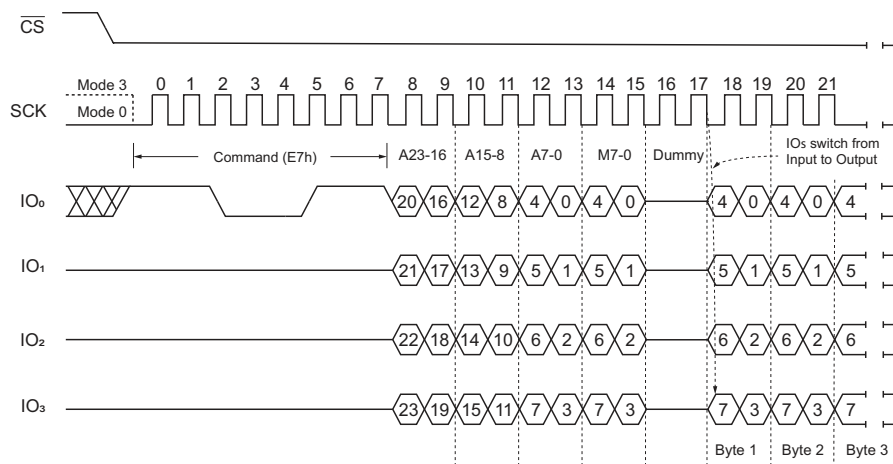

Figure 55. Word Read Quad I/O Command (Initial command or previous set M7-0 ≠ Ah, SPI Mode)
The Word Read Quad I/O command can further reduce command overhead through setting the Continuous Read Mode bits (M7-0) after the input Address bits (A23-0), as shown in Figure 55. The upper nibble of the (M7-4) controls the length of the next Word Read Quad I/O command through the inclusion or exclusion of the first byte command code. The lower nibble bits of the (M[3:0]) are don't care (X). However, the IO pins must be high-impedance before the falling edge of the first data out clock.